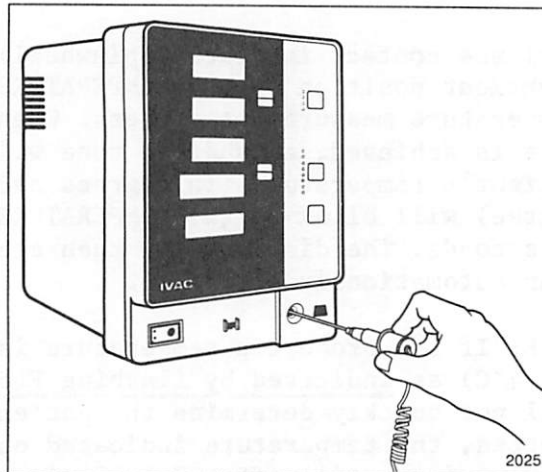

Figure 2-8. Probe Storage Well
- j. Return the probe to its storage well, automatically turning off and resetting the thermometer function for the next temperature measurement. (See figure 2-8.)